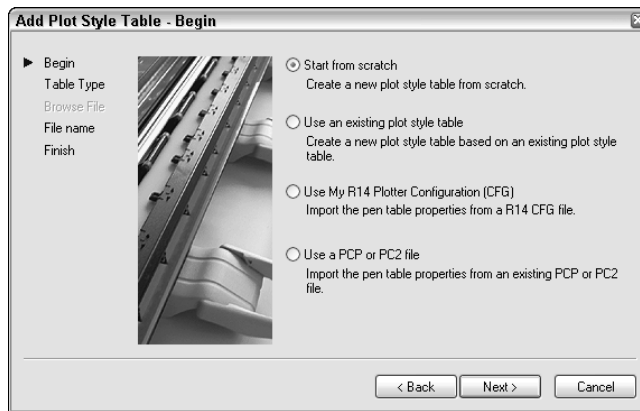

Figure 17-15: In the Begin screen of the Add Plot Style Table Wizard, choose the source you want to use for the new plot-style table.
2. On the Begin screen, shown in Figure 17-15, choose the source you want to use for the plot-style table. You can start from scratch or use an existing plot-style table. Choose Use My R14 Plotter Configuration (CFG) to use the pen assignments from the `acadrl4.cfg` file. If you have a PCP (Release 12/13) or PC2 (Release 14) configuration file, you can use it to import the settings from that file into the plot-style table. Then click Next.